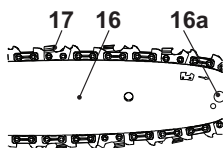

Fig. 7
- The saw chain movement is as indicated by the arrow. Make sure the saw chain (17) is properly placed over the sprocket wheel (16a) of the guide bar (16) (Fig. 7).